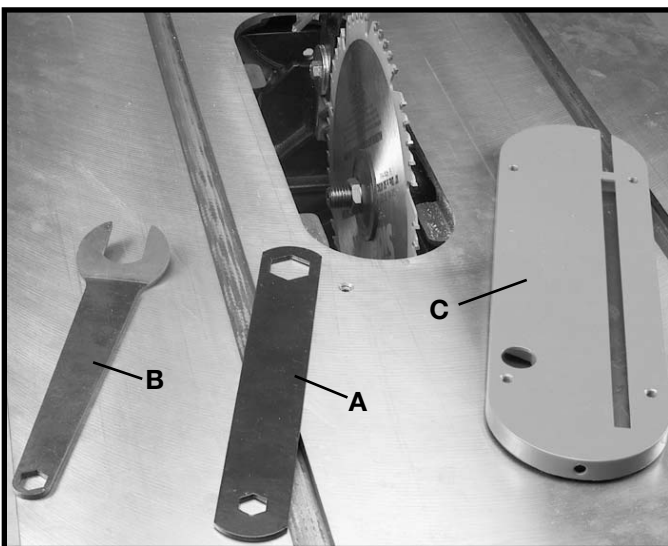

Fig. 106
3. Remove table insert (C) Fig. 106, and raise saw blade to its maximum height.
4. Place the open end wrench (B) Fig. 106 on the flats of the saw arbor to keep the arbor from turning, and use wrench (A), to turn the arbor nut toward the front of the saw. Remove arbor nut, blade flange, and saw blade.
5. Assemble the new blade, making certain the teeth point down at the front of the saw table, and assemble outside blade flange and arbor nut. With wrench (B) Fig. 106, on the flats of the arbor to keep it from turning, tighten arbor nut by turning wrench (A) counterclockwise.